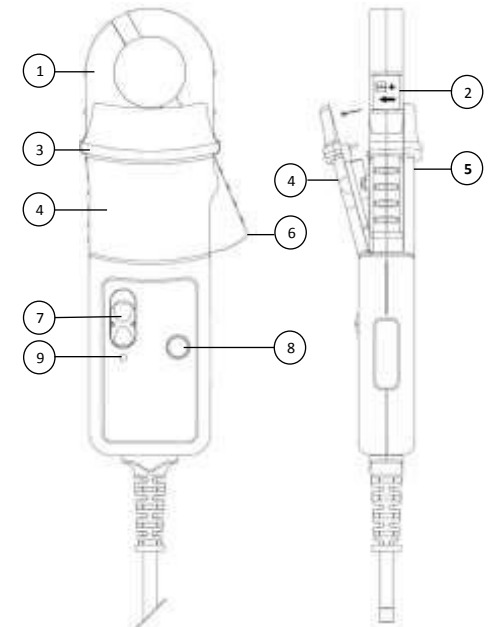

Fig 1
- Do not hold the probe anywhere beyond the tactile barrier: see Fig. 1.
The green or red LED will flash when the minimum operating voltage is approached. Refer to Fig 1. Use the following procedure:
Loosen the captive screw which secures the battery cover. Lift the cover through 30° and pull it clear of the probe body as shown in Fig 1. Replace the battery and re-fit the battery cover and fasten the screw.
Safety in its use is the responsibility of the operator, who must be a suitably qualified or authorized person. Ensure that your fingers are behind the tactile barrier (see Fig. 1) when using the probe. Always inspect the probe and lead for damage before use.